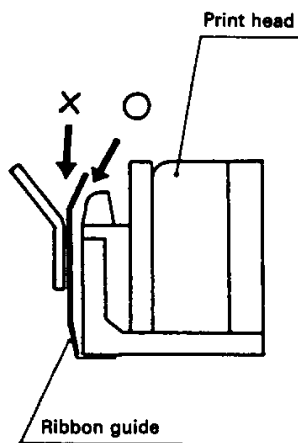

Fig. 4
- 2) While inserting the ribbon into the space between the print head and the ribbon guide, press the cassette into the holder unit until it clicks into place. (Ref. To Fig. 4&5)